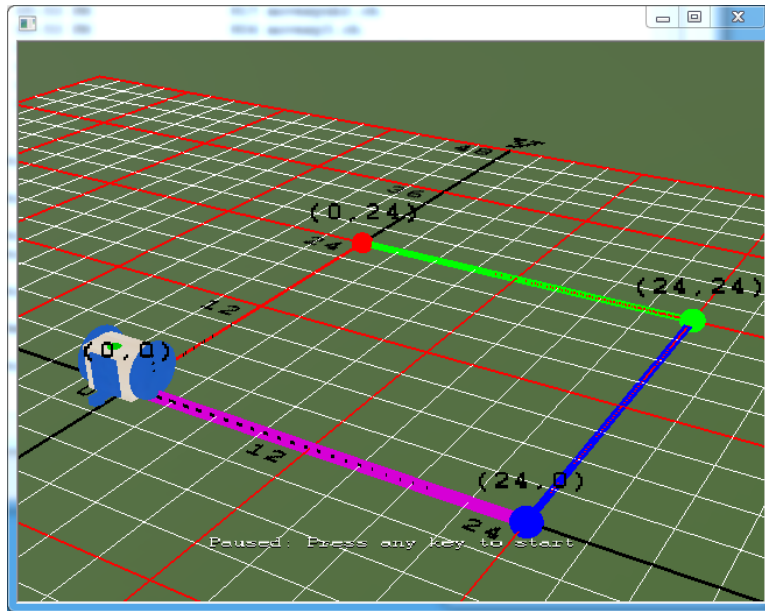

Figure 9.24: The RoboSim scene with an obstacle course with an XML configuration file `pointlinetext2.xml`
2. Create an XML RoboSim configuration file `pointlinetext2.xml` to draw an obstacle course as shown in Figure 9.24. The size for points in the obstacle course is 2. The line widths for the red, green, blue, and purple color are 1, 2, 3, and 4, respectively.
4. Write a program `obstaclecourse2.ch` to drive a robot following the obstacle course as shown in Figure 9.24.